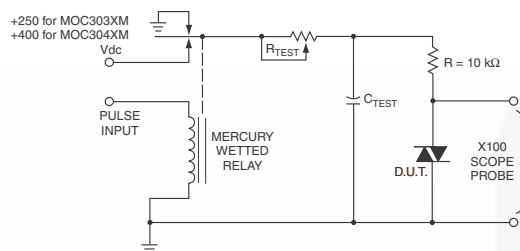

Figure 11. Static dv/dt Test Circuit
- This is static dv/dt. See Figure 11 for test circuit. Commutating dv/dt is a function of the load-driving thyristor(s) only.